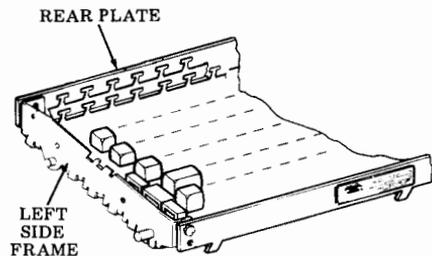

Fig. 15—Cable Removal
- (g) Remove rear plate and left side frame. (Fig. 15).